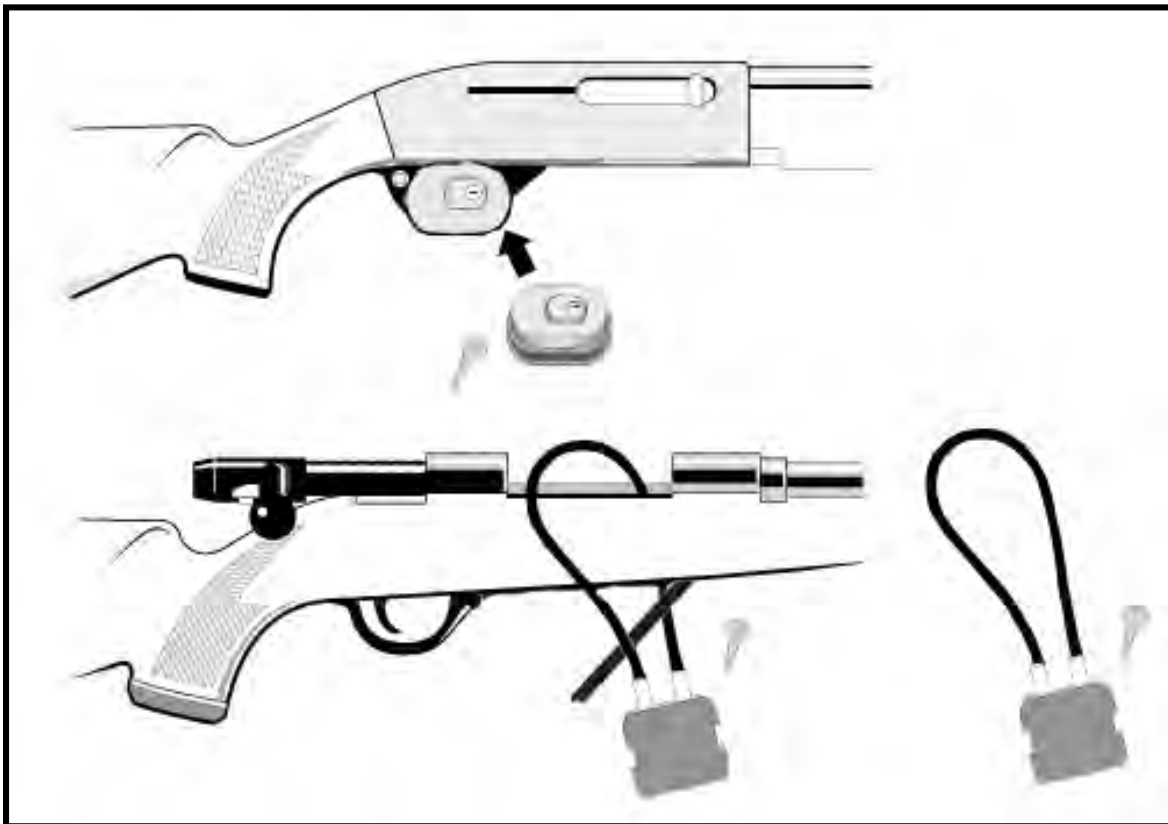

Figure 83. Security Cable and Trigger Locks
- rendered inoperable by using a secure locking device (Figure 83); or